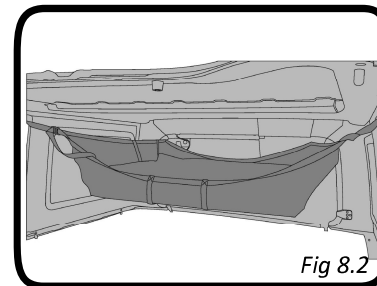

Fig 8.2
2. Make sure cargo net straps are snug. Lift to about head height and place any additional pieces or small doors into the cargo net. A moving blanket is recommended to protect painted items. (Fig 8.2)